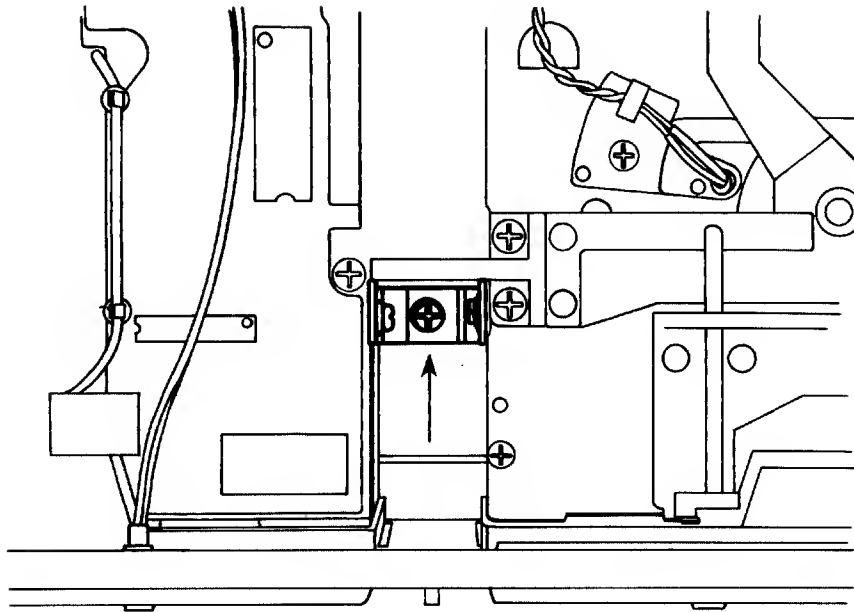

Figure 3-4A: MD II - Revision B and C Chassis - Drive Removal
2. Remove the screw at the base of the bracket holding the two drives (see Figure 3-4A).